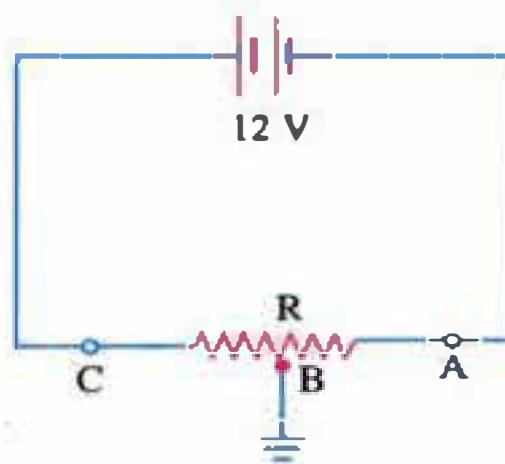

Fig. 1.16
2. In Fig. 1.16, the grounding point B is located at one-third of resistance R from A. Compute the potential of point (i) A and (ii) C. What is the p.d. between A and C ? What is the direction of flow of conventional current between points A and C ? [(i) −4 V (ii) +8 V; 12 V; C to A]